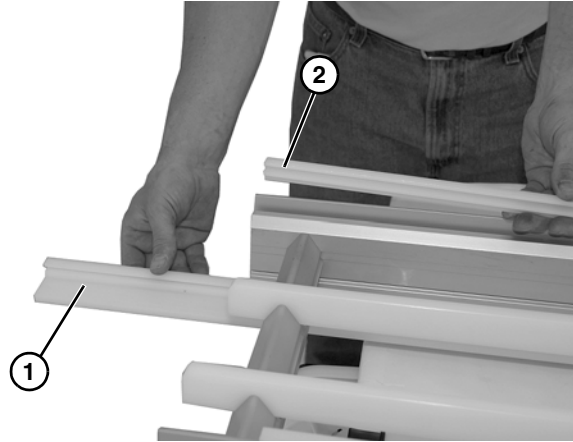

Figure 33
2. Slide lower wear strips (**Figure 33, item 1**), and raise wear strips (**Figure 33, item 2**) from frame assembly.